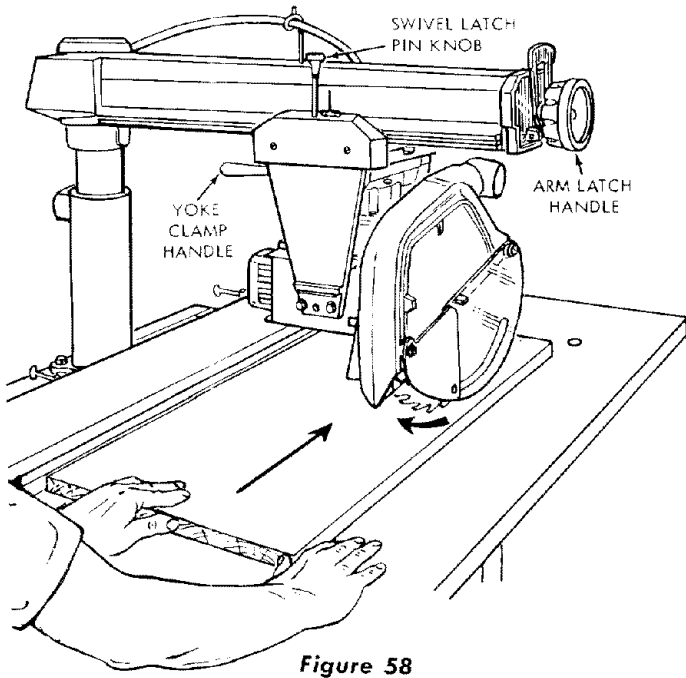

Figure 58
**Out-Ripping** (See figure 58.) The radial arm and bevel are indexed at 0° and locked, but the yoke is turned 90-degrees in a counterclockwise direction (viewed from above), from the crosscut position. When standing in front of the saw, blade would be rotating clockwise. After positioning the guard and anti-kickback mechanism the workpiece is fed from the left-hand side of the saw, as shown in figure 58. The "Out-Rip" scale is on the left-hand side of radial arm.